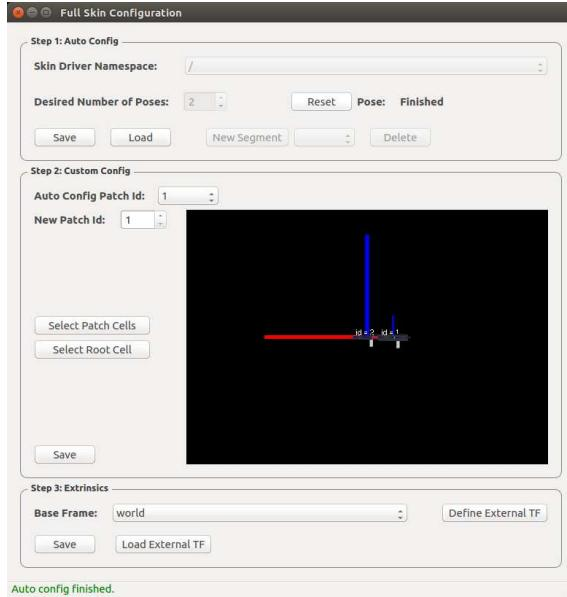

Figure 7.3: Step 1.3
3. Do this process as many times as indicated in “Desired Number of Poses”, until you see *Pose: finished*, see Fig. 7.3